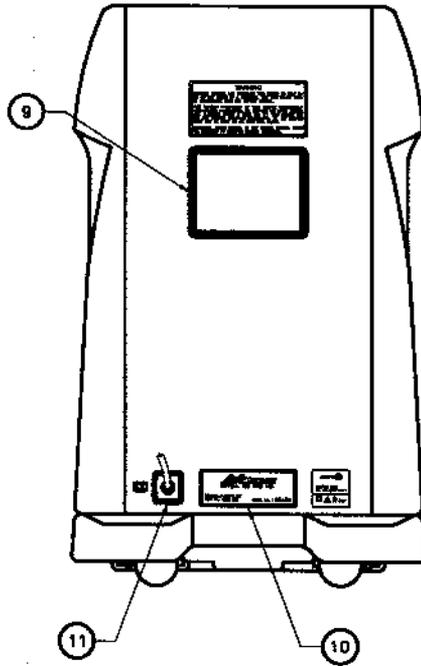

Fig. I.2
I.2. Face traseira (Fig. I.2).....	3-PT
### **I. 2. Face traseira (Fig. I. 2)**